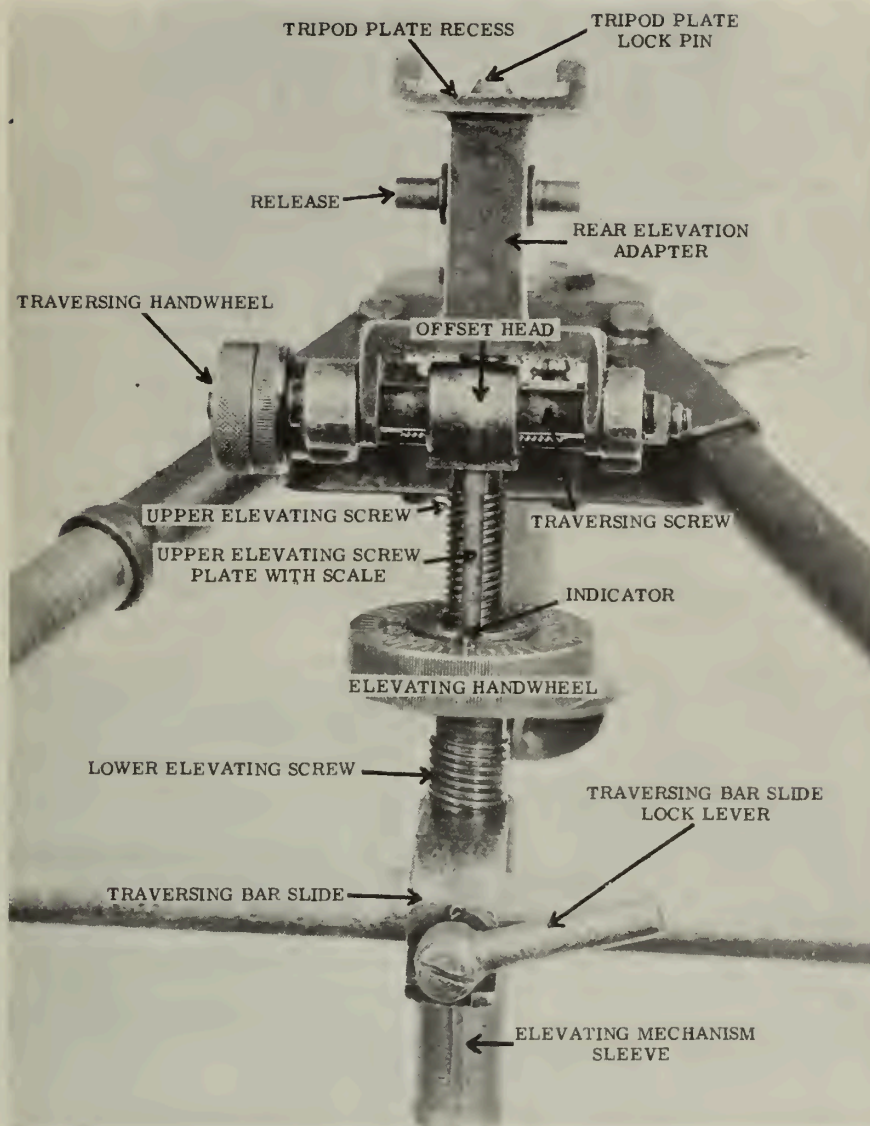

Figure 73. --The Traversing and Elevating Mechanism.
c. The Traversing and Elevating Mechanism. --(See fig. 73.) The traversing and elevating mechanism controls direction and elevation when firing from the tripod. The upper section controls direction; the lower section, elevation.
(1) The traversing portion of the mechanism consists of the traversing handwheel, the traversing screw, and the offset head. The